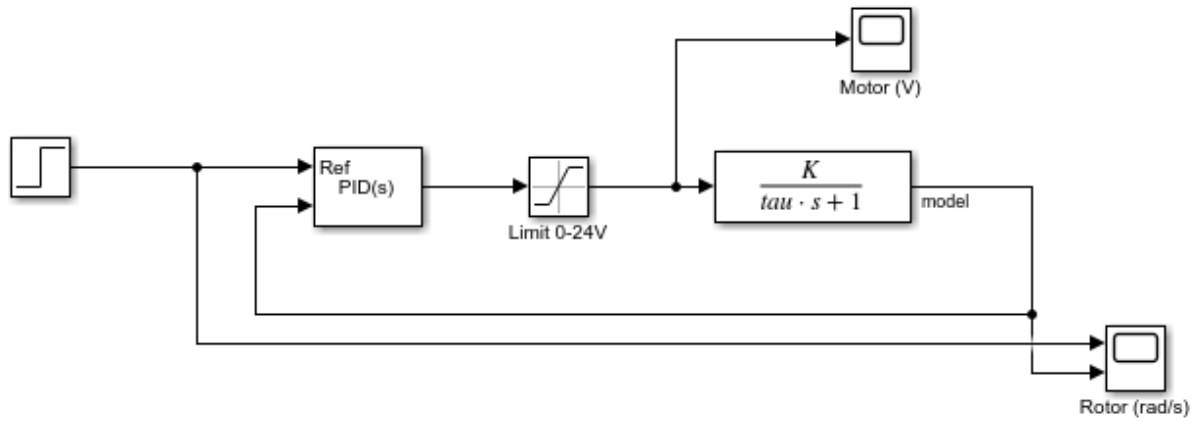

Figure 1 – Simulates the closed-loop rotor PI control speed response.
In this section, the PI rotor speed control is simulated using the rotor transfer function model found in the *Rotor Step Response Modelling* lab. The *s\_aero2\_rotor\_pi* Simulink model shown in Figure 1 uses the Simulink *2 DOF PID Controller* block to implement the PI controller outlined in the Application Guide. The rotor speed reference and simulated response are displayed in the *Rotor (rad/s)* scope and the control input/motor rotor voltage is shown in the *Motor (V)* scope.